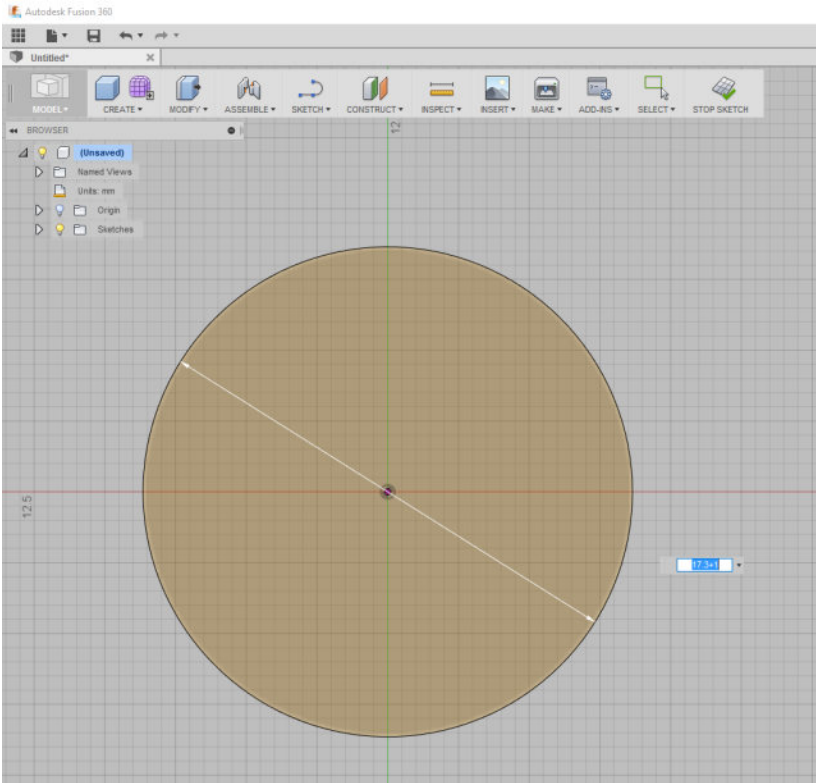

Figure 11-12. *In the sketch environment, double-clicking the diameter number allows for editing. The field entry now reads “17.3+1.”*
13. Change 17.3 to 18.3 either by directly typing that number in, or doing the addition as shown in Figure 11-12.